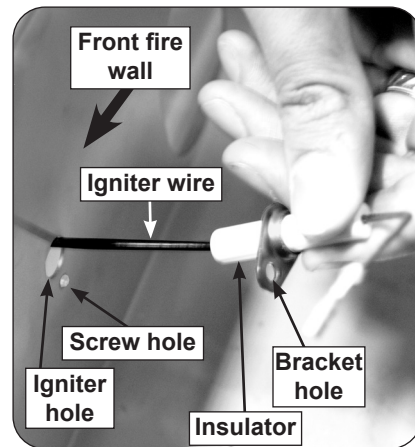
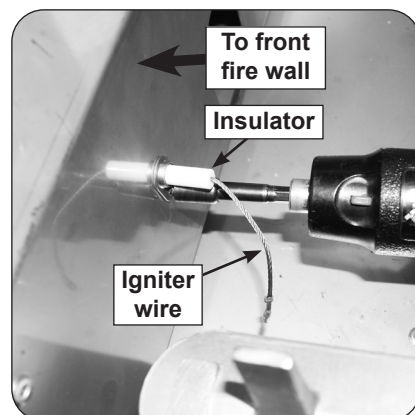

Fig. 3-1 Screw the new wire to the fire wall
Fig. 3-2 Screw the new wire to the fire wall
1. Locate the new igniter wire with the insulator attached and thread the wire-end through the hole in the oven fire wall left by the old igniter, from the oven side as shown in Fig. 3-1. Continue to thread the wire end through the insulator tube in the manifold fire wall and through the slot in the heat shield, then route it toward the igniter module on the right. (Hint: wrap around existing wire bundle.)
3. Attach the insulated portion of the igniter wire to the inside of the oven fire wall by placing the screw (included) through the bracket hole and into the hole in the fire wall (see Fig. 3-1 and Fig. 3-2).